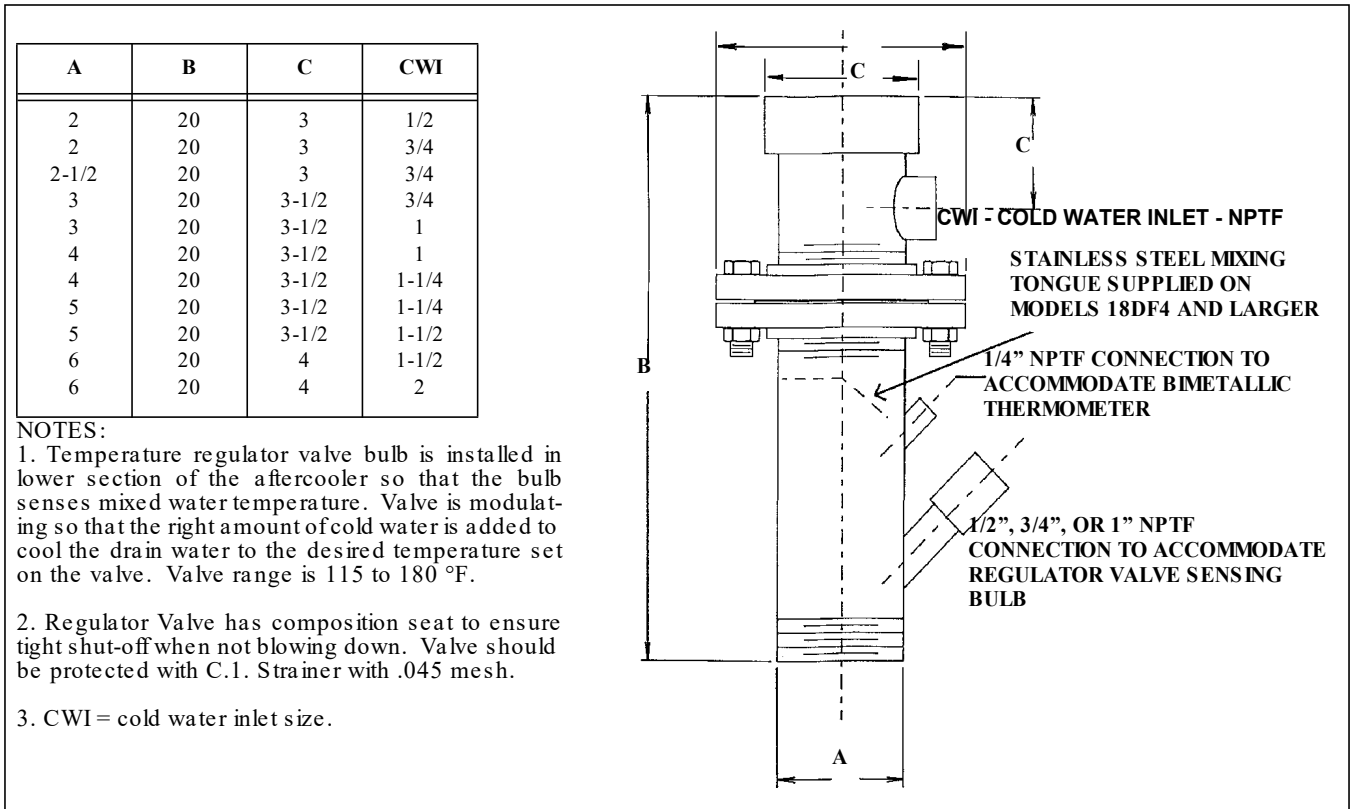
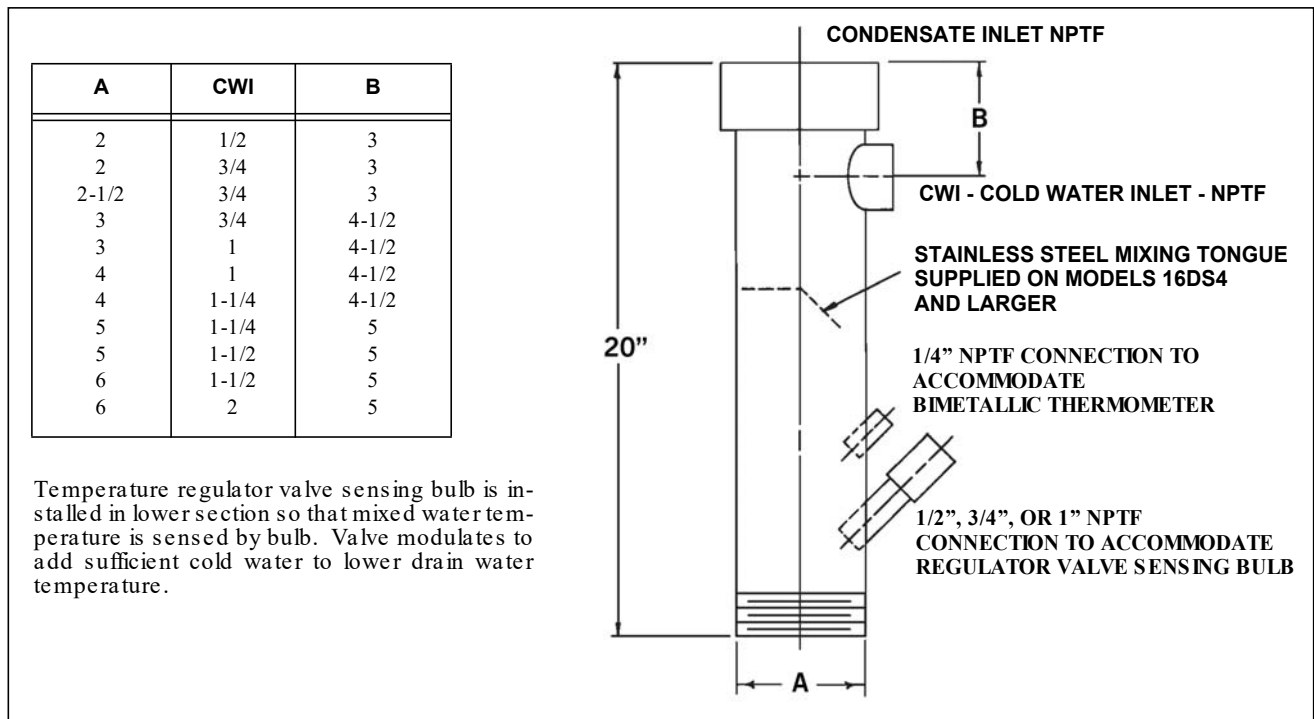

Figure 2. Automatic Drain Water Aftercooler (18DF) Dimensions
Figure 3. Automatic Drain Water Aftercooler (16DS) Dimensions
- Model 18DF Aftercooler (Figure 2) or Model 16DS (Figure 3) - Nonclogging automatic drain tempering fitting with stainless steel mixing tongue (on 4" and larger) to provide thorough mixing of influent cold water with drain water. The middle flange (Model 18DF) permits rotation for various pipe fitting requirements and also serves as a dismantling flange. Two bulb-wells for mounting control valve and thermometer are furnished. When ordering, state cold water inlet size.